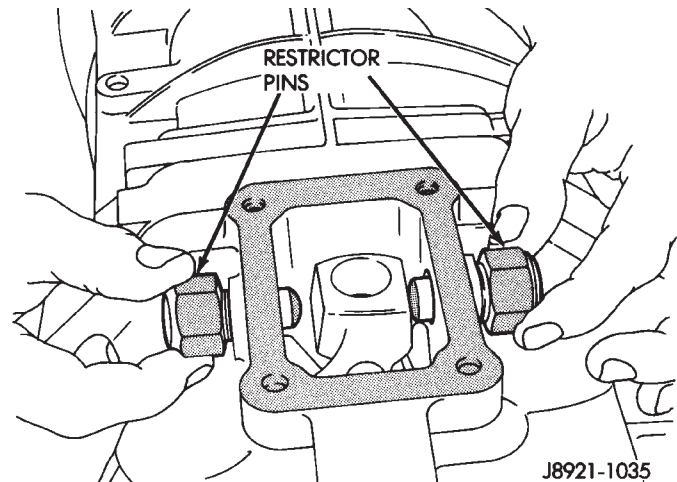

Fig. 5 Removing/Installing Restrictor Pins
- (6) Loosen and remove restrictor pins (Fig. 5).